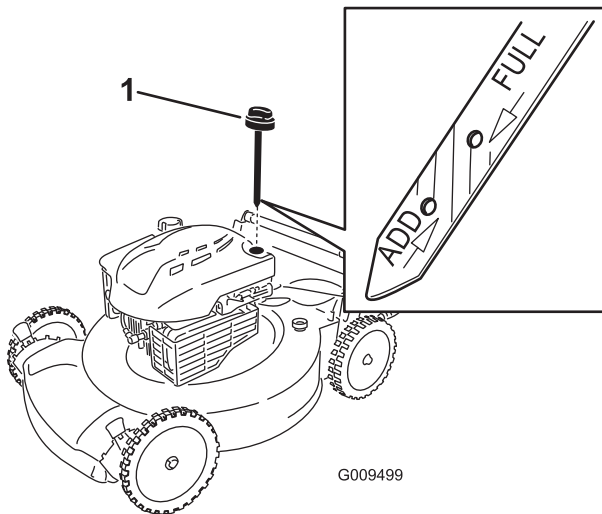

Figure 6
5. Remove the dipstick and read the oil level on the dipstick; refer to Figure 6.
2. Remove the dipstick (Figure 6) and pour about 3/4 of the crankcase capacity of oil into the oil-fill tube.